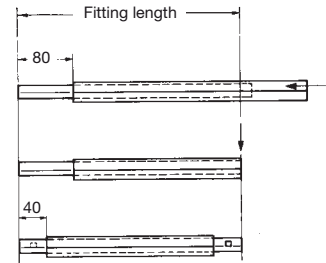

fig. 8:
- On curves with smaller radii than 0,7 m a straight section of approx. 0,1 m on each end is required to assure a good splice (fig. 8).